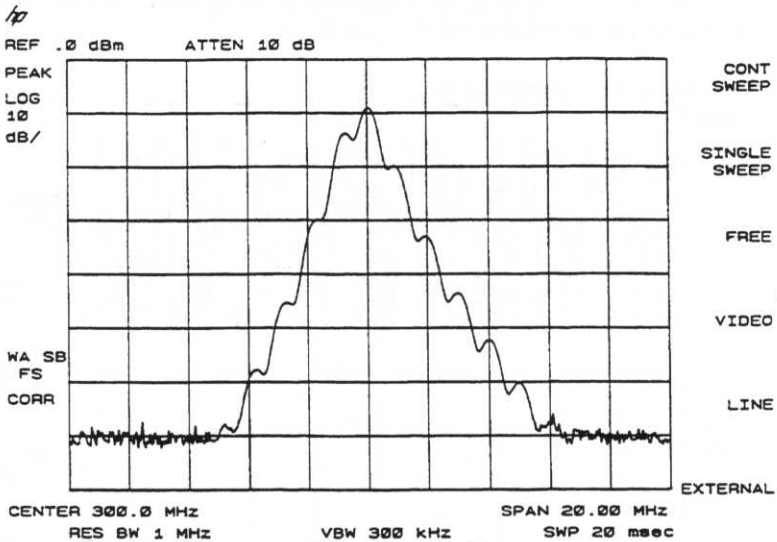

Figure 2-20
2. First, center and zoom in on the signal in the frequency domain. (See "Automatic Zooming.") (Signal Track must be off for zero span.) See Figure 2-20.